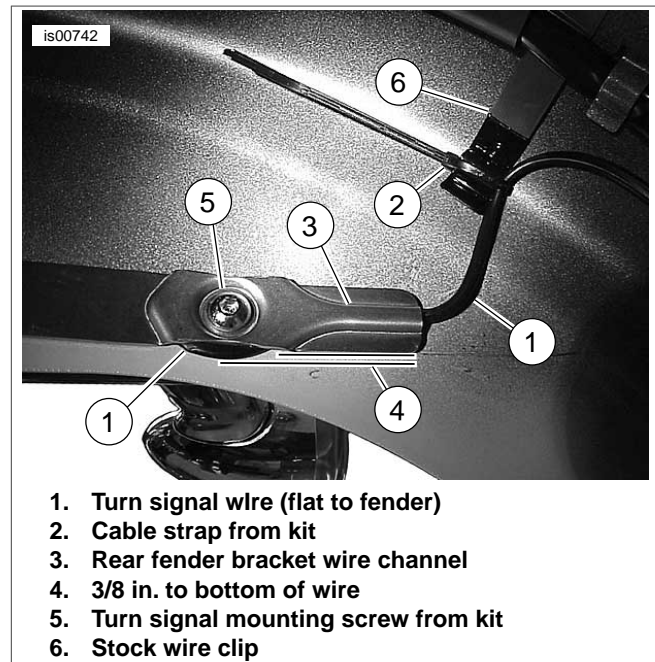

Figure 4. Turn Signal Wire Routing
See Figure 4. Ensure loop of the wire (1) that routes around the turn signal mounting screw and bracket stud is a maximum of 3/8 in. below the bottom of the rear fender bracket (4).
11. See Figure 4. Route turn signal wire down around the fender bracket stud, through the channel (3), towards the rear of the motorcycle. Ensure that the wire is flat to the fender in the channel. Continue to route the wire, flat against the fender, up to the rear of the wire clip as shown, then rearward to the tail light.
12. See Figure 4. Tighten turn signal mounting screw (5) to 14 ft-lbs (19 Nm).
14. See Figure 4. Secure the turn signal wire (1) to the rear of wire clip (6) using a cable strap (2) as shown. Ensure the clasp of the cable strap locates in front of (forward of) the wire clip as shown. Cut off excess cable strap.